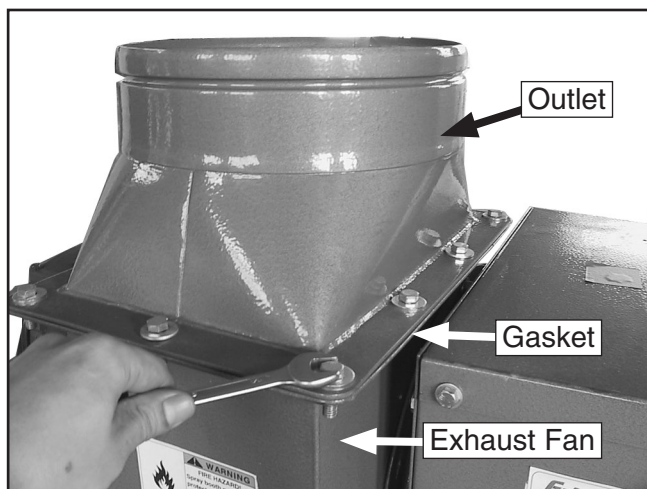

Figure 22. Installing outlet.
1. Place the outlet gasket between the outlet and exhaust fan, and secure with ten $\frac{5}{16}$ "-18 x $\frac{3}{4}$ " hex bolts and flat washers as shown in **Figure 22**.